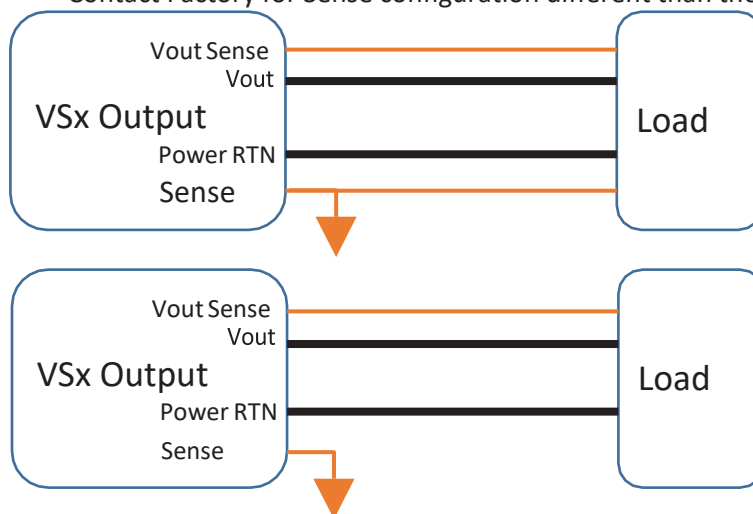

Figure 2: Sense line connection
*Sense Lines* proper connection is shown in Figure 2.